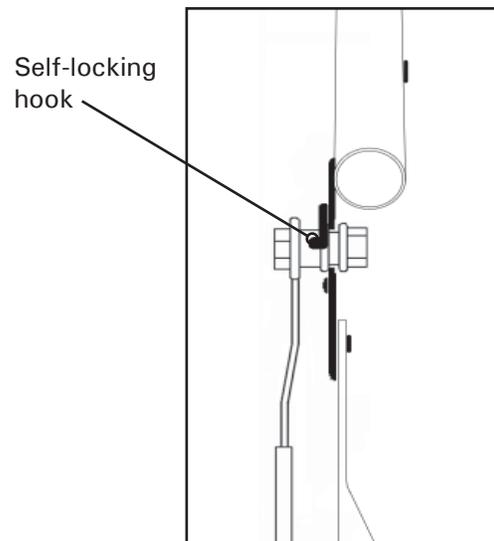

Figure 7
- Make sure that both Pivot Pins are seated at the base of the slot in the hinge plate (Figure 7). Check to make sure that the self-locking hooks have closed over both Pivot Pins, and the table rotates smoothly.